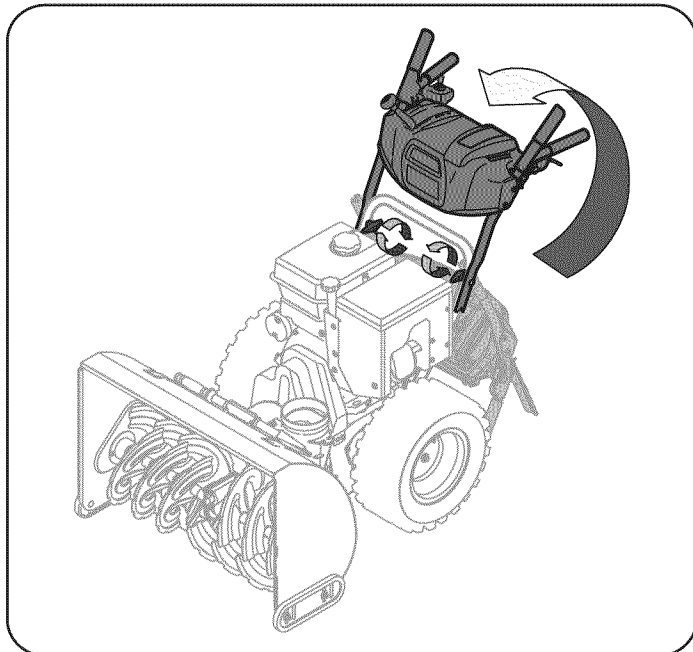

Figure 2
- b. Pull up and back on upper handle as shown in Figure 2. As you are raising the handle upward, make sure that both ends of the center cable are positioned properly in the brackets. Align upper handle with the lower handle.